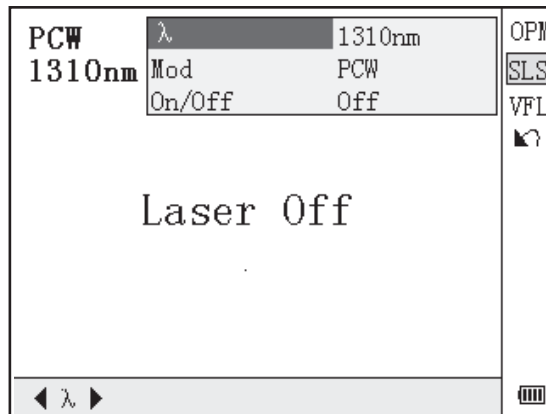

Figure 4-13. Stabilized Laser Source Setting
2. Use ◀ and ▶ to toggle between SLS working wavelengths. Press Enter to enter SLS setting interface (Figure 4-13).